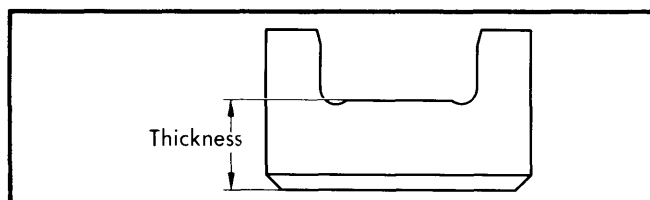

Fig. 3 Thrust Piece
3) To correct base setting, remove rocker arm. Remove thrust piece and insert measuring thrust piece. (Fig. 3) Reinstall rocker arm. Repeat measuring procedure outlined in step 2. Use thrust piece according to measured value in table.